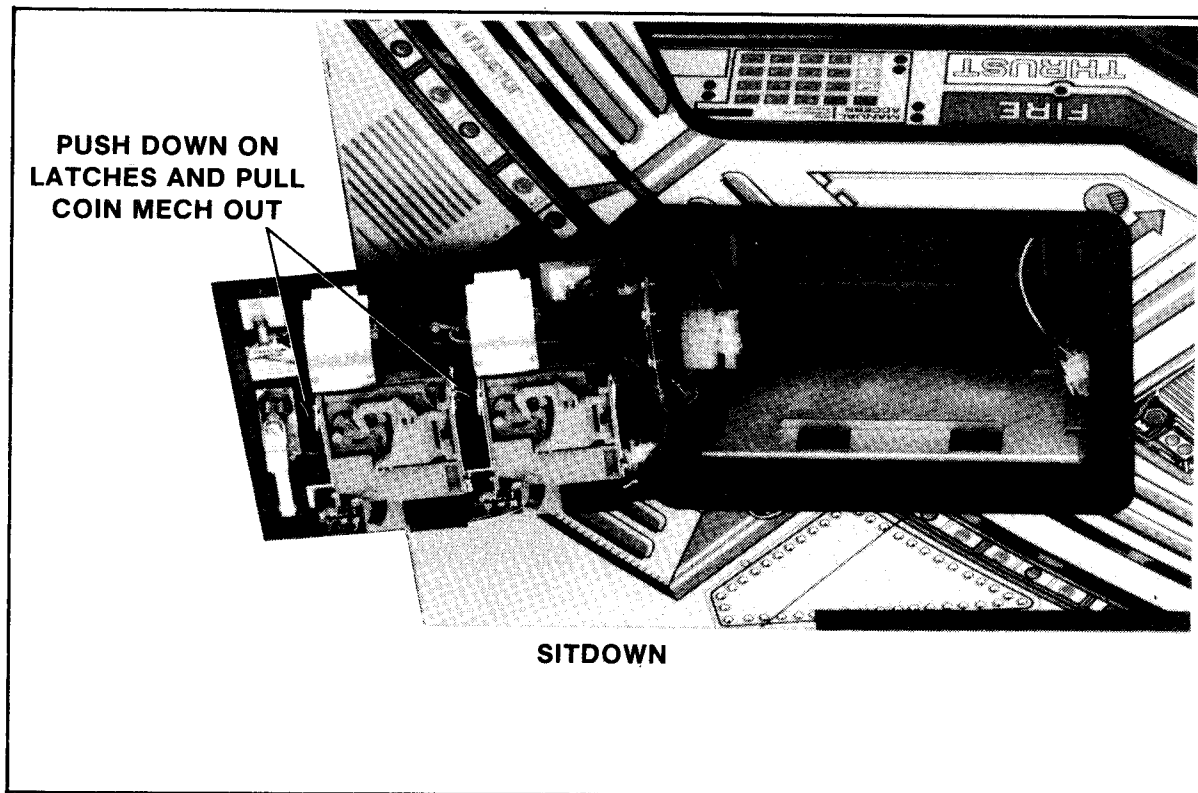

FIGURE 37
- d. Remove the coin acceptor mechanism(s) as shown in Figure 37.
- c. Remove the coin acceptor mechanism(s) as shown in Figure 37.